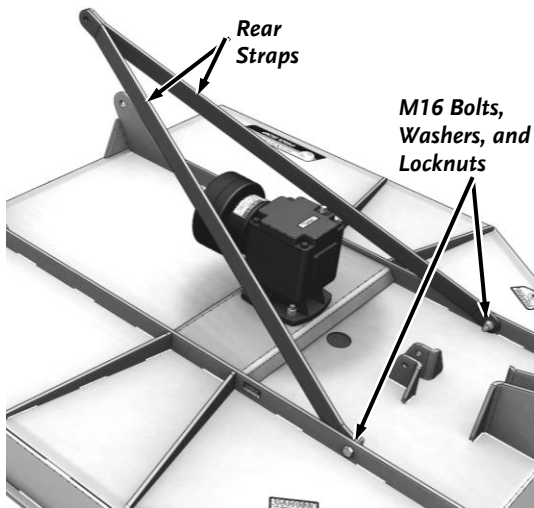

Figure 4
1. Loosely install the two Rear Straps on the **inside** of the Deck Supports using two M16X50 Bolts, M16 Plain Washers and M16 Locknuts (**Figure 4**). Tighten the Hardware moderately using two 24mm Wrenches. Leave the hardware loose enough so that the Straps can be positioned in step 3.